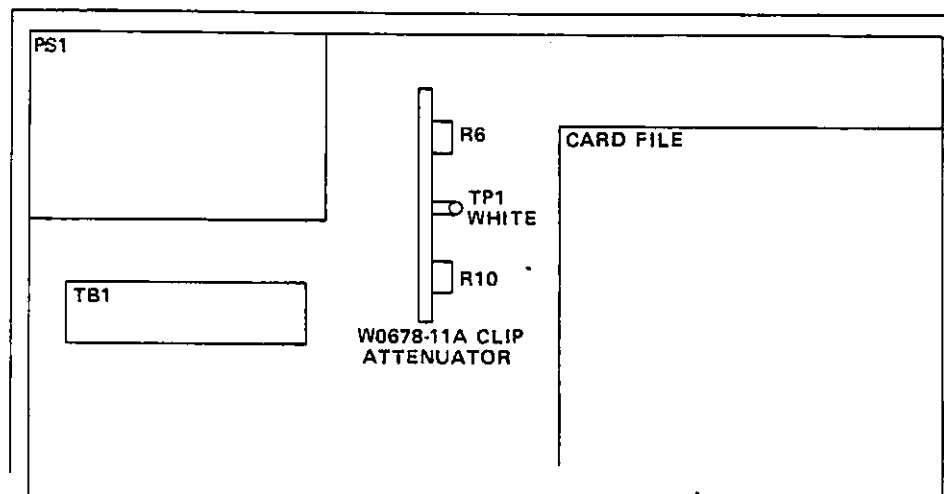

Figure 2.18. Top View of EPA Showing Location of Clip Attenuator Module
d. On Channel B of the oscilloscope, monitor the Clip Attenuator Gate at TP1 (white test point) on the Clip Attenuator module (see Figure 2.18).
- g. Adjust the potentiometer (R6) on the Clip Attenuator module (refer to Figure 2.18 for location of R6) until the pulse peak reading on the EPA DPM is the same as the value obtained in step e. (+1 volt) or in accordance with local directives. Since the volt/ampere ratio of the Current Transformer (Pearson Model 1705) is 1/10, the peak current on the antenna may be obtained by multiplying this reading by ten.